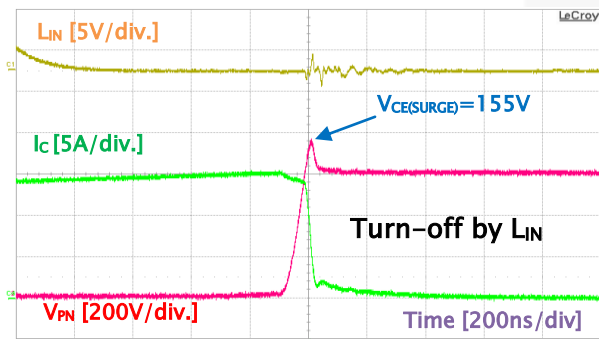
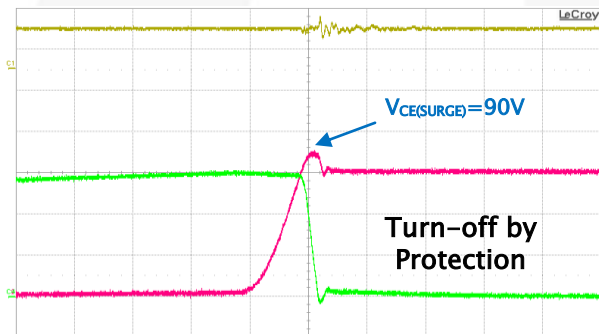

Figure 28. Turn-Off by Input
Figure 29. Turn-Off by Soft Off Function
An internal block diagram of LVIC and operation sequence of soft turn-off function is shown in Figure 28 and Figure 28. This function operates by two internal protection functions (UVLO and SCP). When the IGBT is turned off in normal conditions, LVIC turns off the IGBT immediately by turn-off gate signal ($IN(xL)$) via gate driver block. Pre-driver turns on output buffer of gate driver block (path ①). When the IGBT is turned off by a protection function, the gate driver is disabled by the protection function signal via output of protection circuit (disable output buffer, high-Z) and output of the protection circuit turn-on switch of the soft-off function. V_{GE} (IGBT gate-emitter voltage) is discharged slowly via circuit of soft-off (path ②).
Figure 28 and Figure 29 show normal turn-off switching operations performed satisfactorily at a $V_{DC}=800$ V with the surge voltage between the P and N pins ($V_{PN(Surge)}$) limited to under 1000 V. The difference between the hard and soft turn-off operation is also shown in Figure 28 and Figure 29. The hard turn-off of the IGBT creates a large overshoot (155 V). The DC-link capacitor supply voltage should be limited to 800 V to safely protect the 1200 V Motion SPM 2. A hard turn-off, with a duration of less than $\sim 2 \mu s$, may occur in the case of a short-circuit fault. For a normal short-circuit fault, the protection circuit becomes active and the IGBT is turned off softly to prevent excessive overshoot voltage. An overshoot voltage of <100 V occurs in this condition.
Figure 28 shows the I/O interface circuit between the MCU and Motion SPM 2. Because the Motion SPM 2 input logic is an active HIGH and there are built-in pull-down resistors, external pull-down resistors are not needed.
(For FNA21012A, refer to the Figure 28)